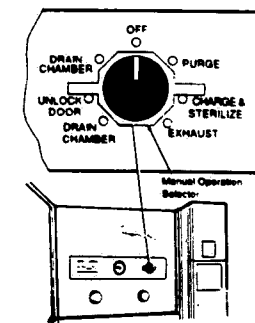

FIGURE 2-10 - Manual Control
- If door was locked before beginning cycle, turn MANUAL control (Figure 2-10) counterclockwise to CHAMBER DRAIN for approximately three minutes. This drains the chamber of any residual water.